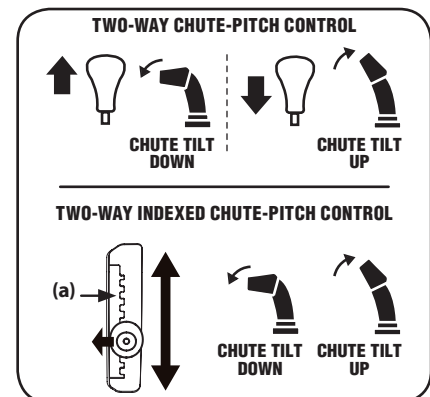

Figure 3-12
- To Reduce the Distance Snow is Thrown: Move the lever forward to pivot the upper chute down. See Figure 3-12.
- To Increase the Distance Snow is Thrown: Move the lever rearward to pivot the upper chute upward. See Figure 3-12.
- To Reduce the Distance Snow is Thrown: Disengage lever from the current chute-pitch setting. Move the lever forward to pivot the upper chute down to the desired pitch setting (a). See Figure 3-12.
- To Increase the Distance Snow is Thrown: Disengage lever from the current chute-pitch setting. Move the lever rearward to pivot the upper chute upward to the desired pitch setting (a). See Figure 3-12.